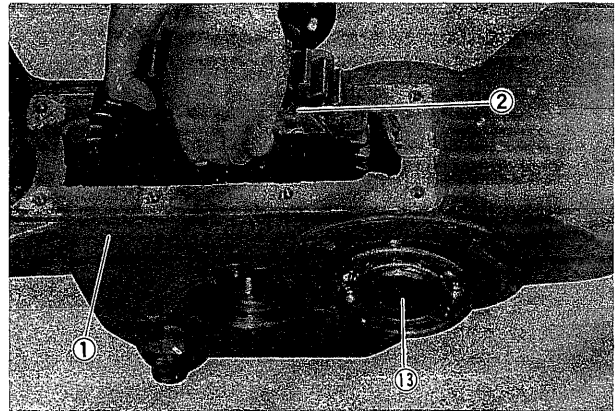

Fig. 36
(8) Take out gears (2), (13) from case (1). (Fig. 36)